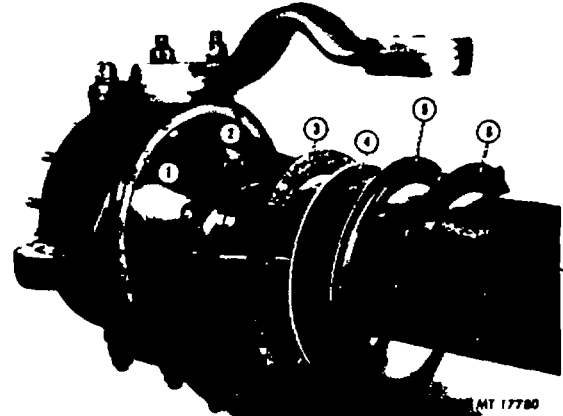

Fig. 4. Trunnion Housing Seals and Retainers
4. Remove retaining ring halves, split ring retainer, seal with spring, steering ball felt, flange and gasket from back side of trunnion housing (Fig. 4).